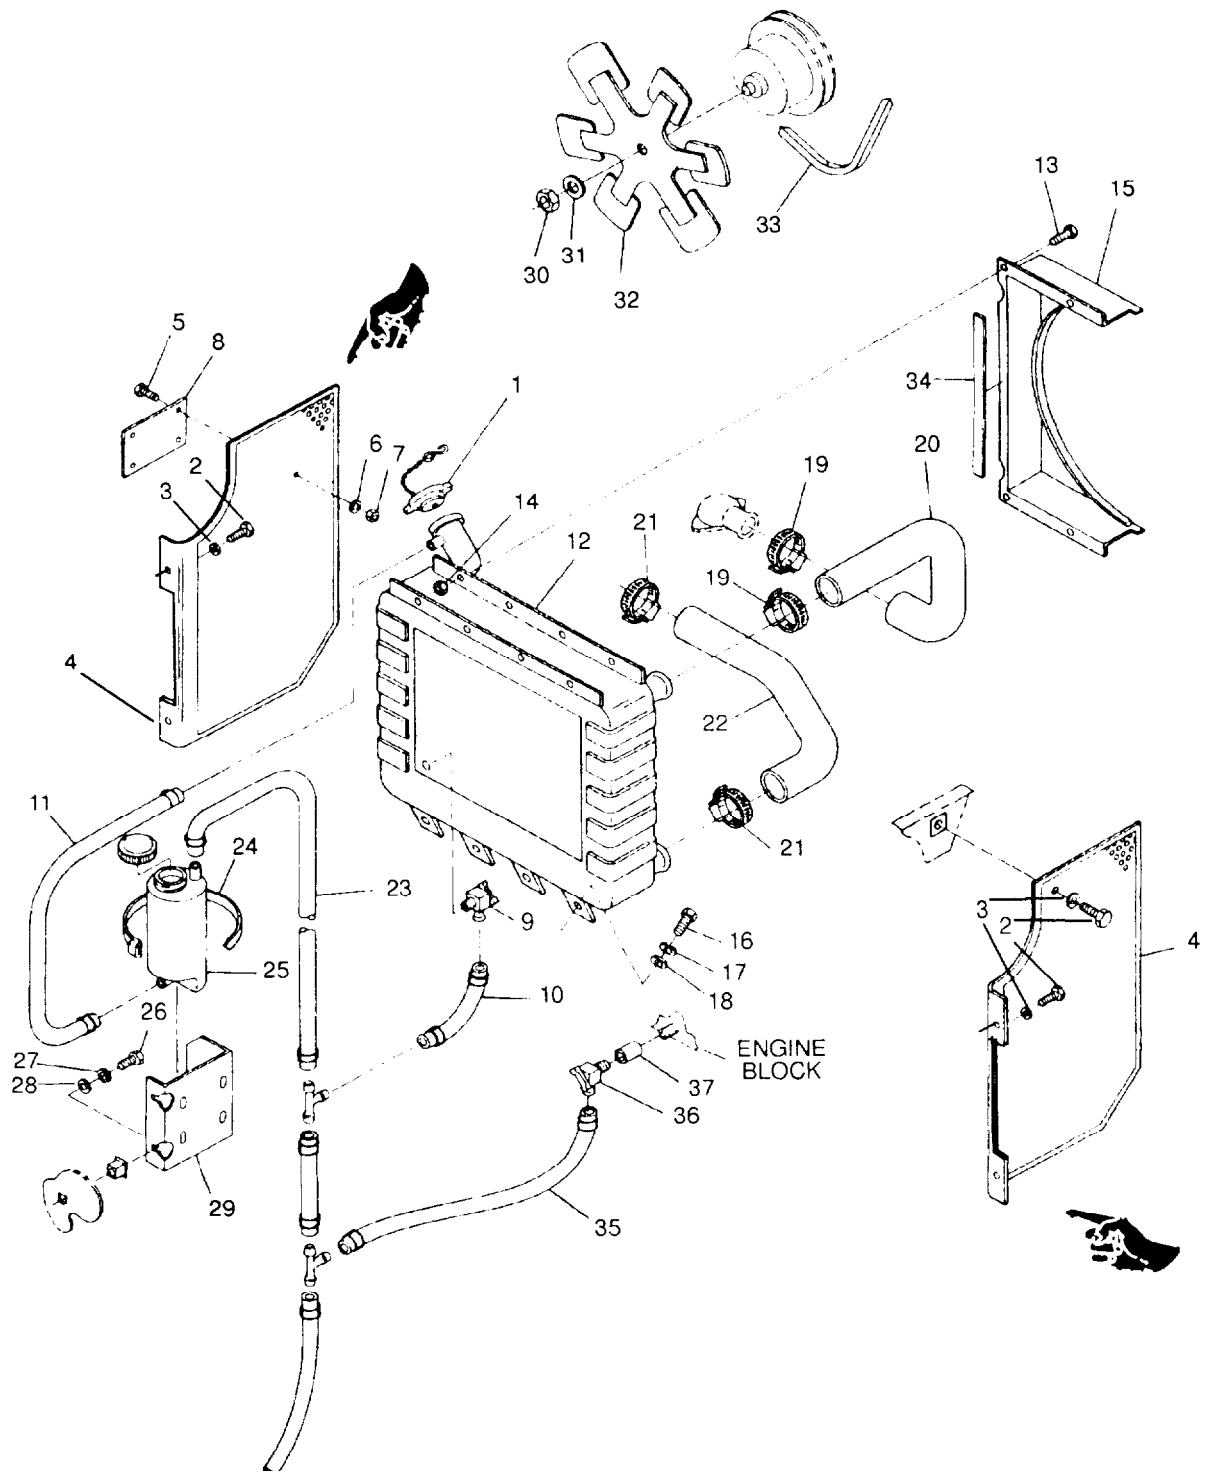

Figure 2-20. Radiator Assembly and Cooling System
- e. Remove radiator cap (1, Figure 2-20).
- f. Remove bolts (2), washers (3), and fan guards (4).
- g. Remove bolts (5), washers (6), nuts (7), and caution plate (8).
- h. Open radiator drain valve (9) and drain coolant into suitable container.
- i. Disconnect drain hose (10) and overflow hose (11) at radiator (12).
- j. Loosen hose clamps (19) and remove upper coolant hose (20).
- b. Inspect radiator (12, Figure 2-20) for excessive corrosion, cracks, or bent cooling fins.
- d. Inspect seals (34) for looseness and deterioration.
- a. Replace defective radiator cap (1, Figure 2-20).
- c. Replace damaged seals (34).
- a. Install drain valve (9, Figure 2-20) in radiator (12).
- b. Install radiator (12) in generator set with bolts (16), lockwashers (17), and washers (18).
- c. Install shroud halves (15) with bolts (13) and nuts (14).
- d. Install clamps (21) and lower coolant hose (22).
- e. Install clamps (19) and upper coolant hose (20).
- f. Attach drain hose (10) and overflow hose (11) to radiator (12) and drain valve (9).
- g. Install caution plate (8) on right side fan guard (4) with bolts (5), washers (6), and nuts (7).
- h. Install fan guards (4) with bolts (2) and washers (3).
- c. Remove radiator cap (1, Figure 2-20).
- d. Remove bolts (2), washers (3), and left side fan guard (4).
- e. Loosen dams (19) and remove upper coolant hose (20).
- a. Push upper coolant hose (20, Figure 2-20) onto thermostat housing opening and radiator inlet. Tighten clamps (19).
- b. Install left side fan guard (4) with bolts (2) and washers (3).
- c. Install radiator cap (1).
- e. Add coolant as required to overflow bottle (25). See Table 2-1 for recommended coolant.
- d. Remove bolts (2), washers (3), and fan guards (4).
- e. Open radiator drain valve (9) and drain coolant into suitable container.
- f. Loosen dams (21) and remove lower coolant hose (22).
- a. Push lower coolant hose (22, Figure 2-20) onto radiator outlet opening and water pump opening and tighten dams (21).
- b. Close radiator drain valve (9) and add coolant to proper level, paragraph 2-1-2-2.